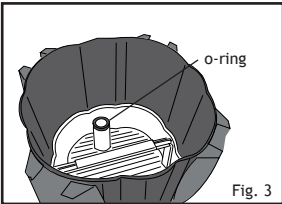

Fig. 3
6. Once all the filter media and the canister body have been washed and the sponges have been inserted into the media baskets, place the media baskets in the correct order back into the canister body (refer to overview). Ensure the baskets are all correctly aligned and the black o-rings are in place on the media baskets, excluding the top basket. Fig 3